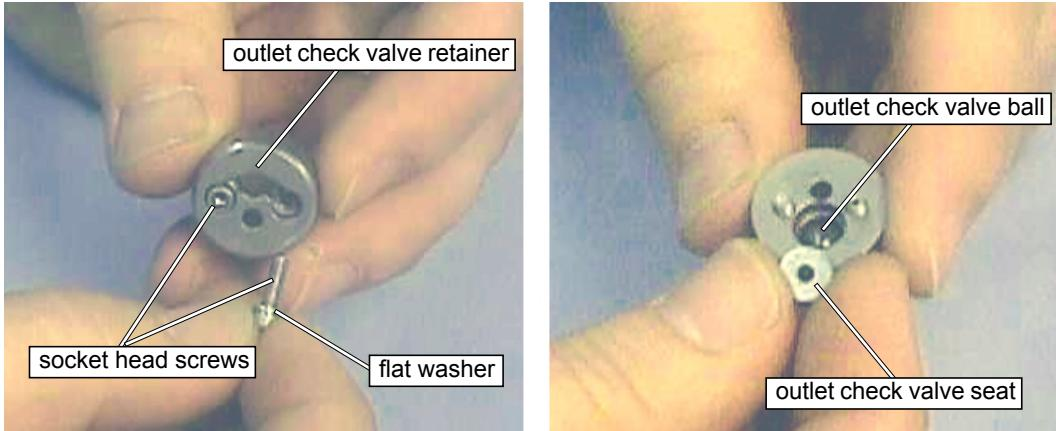

Figure 6-23
Note: The outlet side of the check valve body has three holes in the end of the stem (Figure 6-23). The notch and chamfer on one side of the static backup ring faces toward the check valve body.
- Apply a small amount of **anti-seize lubricant** to threads of the two **socket head screws**. Install **flat washers** and the two socket head screws through the **outlet check valve retainer** (Figure 6-23):